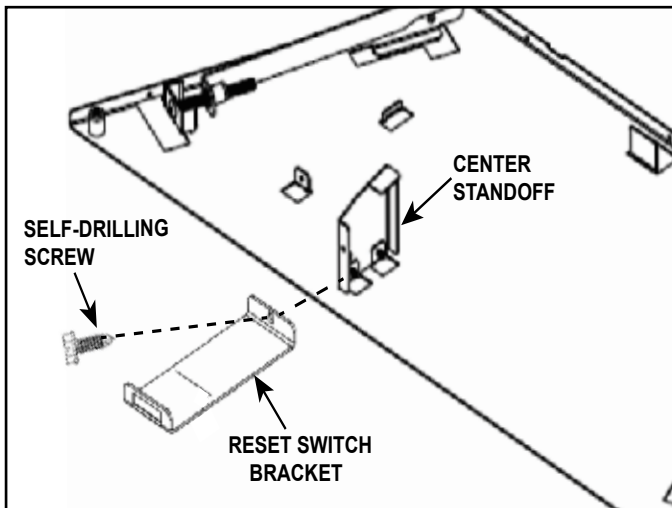

Figure 1 Reset Switch Bracket Location
3. Use the self-drilling screw to attach the reset switch bracket to the center standoff. The bracket should sit flat on the base of the appliance. Center the hole in the bracket on the center of the standoff. See Figure 1.